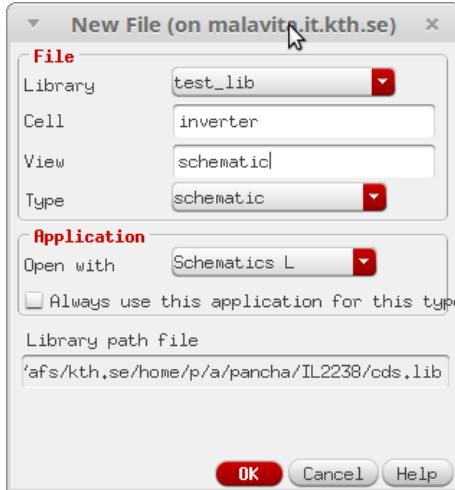

Figure 6: Create a Cell
3. At this point, you should create a cell within "test.lib". To do so, in the Library Manager window select the newly created library and then click on: File→New→Cell View. In the window that pops up fill in the fields as illustrated in Fig. 6.